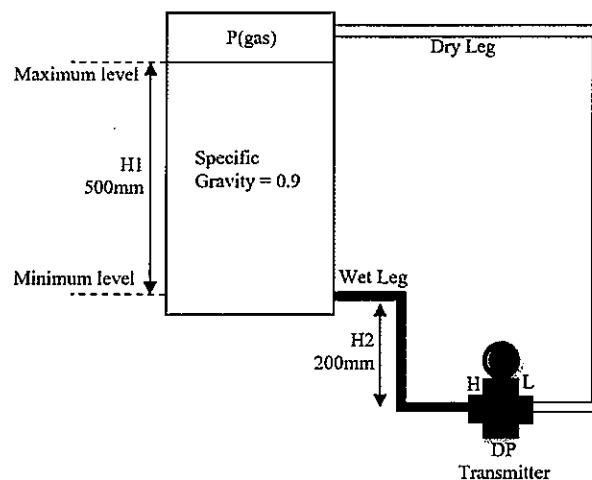

Figure A3(b) / Rajah A3(b)
- CLO1 (b) In a closed tank DP-cell level measurement, LP leg is connected to the top of tank. The dry leg method is used in normal close tank, as shown in Figure A3(b). The formula at zero % level,  $LRV = \text{pressure acting on HP leg} - \text{Pressure acting on LP leg}$ . At 100 % level,  $URV = \text{pressure acting on HP leg} - \text{Pressure acting on LP leg}$ . Compare the LRV and URV count values in mmwc units.